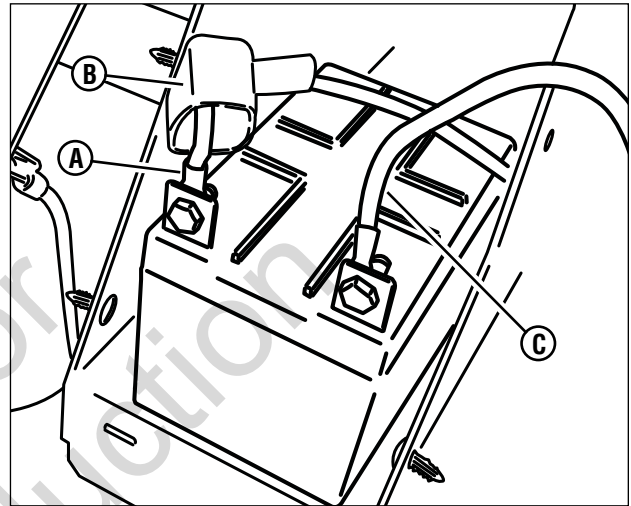

Figure 49: Battery connections
3. Disconnect the BLACK (Negative) cable (C, Figure 49) from the negative battery terminal. Retain the mounting hardware.
2. Connect the RED positive (+) cable (A, Figure 49) to the positive terminal (+) on the battery with the removed hardware.